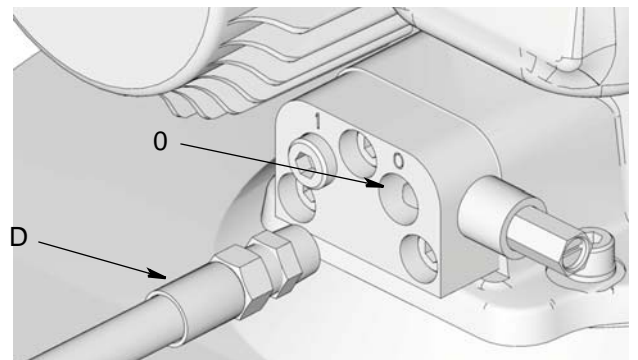

FIG. 64: Lubricant Outlet Connection
3. Disconnect Timer/Controller (F) (user supplied, if used).
4. Disconnect High Pressure Lubricant Supply Line (D) to the Lubricant Output Connection (O) (FIG. 64) on the Vent Valve or Manifold.